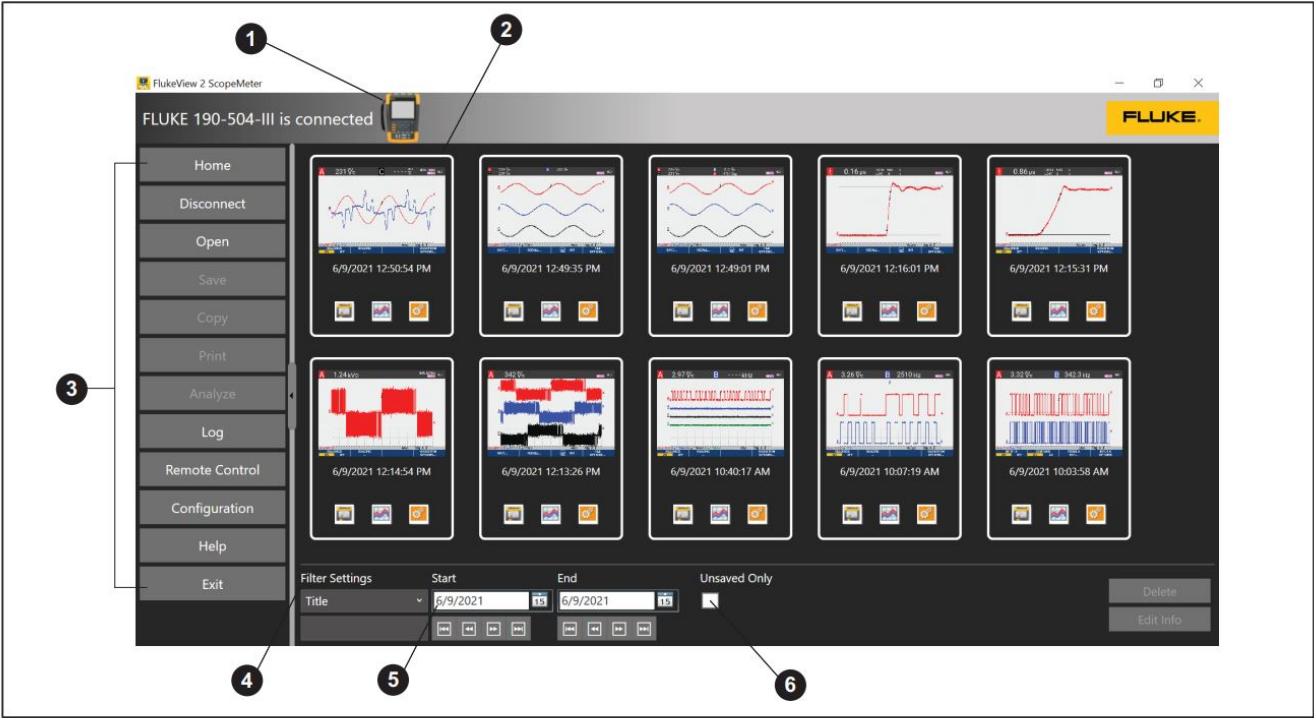

Figure 3. FlukeView 2 Main Window
At startup, FlukeView 2 automatically tries to make a connection with the Test Tool. An icon for the instrument shows at the top of the window if the connection is successful and the Test Tool is connected. See Figure 3, item A.
The main window is an overview of all the Measurement Groups since the start of the program and all items that have been stored to the database. See Figure 3.
The most recent Measurement Group shows on the top left portion of the window. See Figure 3, item
Use the menu buttons on the left toolbar to access the software functions. See Figure 3, item . Table 1 is a list of the menu items and functions.
- On the bottom of the screen you can select a filter to limit the amount of Measurement Groups that are visible in the main window. See Figure 3, item
- Use Start and End to select the date range of the items that show in the main window. See Figure 3, item
- Check the Unsaved Only option to show only the items that are not yet saved to the database. See Figure 3, item
- The drop-down list on the left of the Filter settings allows you to filter on Measurement groups with “Additional Info.” See Figure 3, item